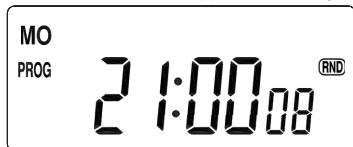

Fig. 4
1. Click MODE button to RND appear as show in Fig. 4.